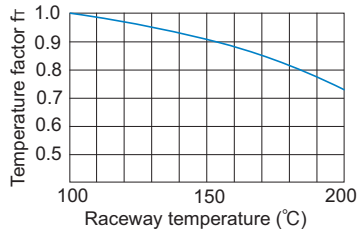

Fig. 2 Temperature Factor (f_T)
- f_T : Temperature factor (see Fig.2 **A11-6**)
If the temperature of the environment surrounding the operating Flat Roller exceeds 100°C, take into account the adverse effect of the high temperature and multiply the basic load ratings by the temperature factor indicated in Fig.2.